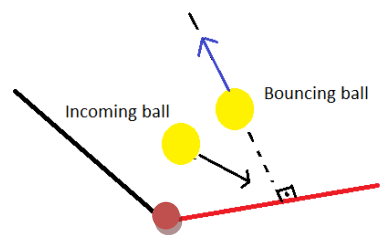

Figure 3 Bouncing of the ball from flipper
- When the ball hits a flipper, it will be reflected and its reflection angle will be perpendicular to the flipper at the collision instant. This is shown in Figure 3.
IMPORTANT NOTE: The video input signals (R, G, B) of a VGA monitor should be off (or black) during H. or V. Sync stages, and front/back porch stages. The video input signals should only be active during an active video transmission stage, which are highlighted in Figure 3.